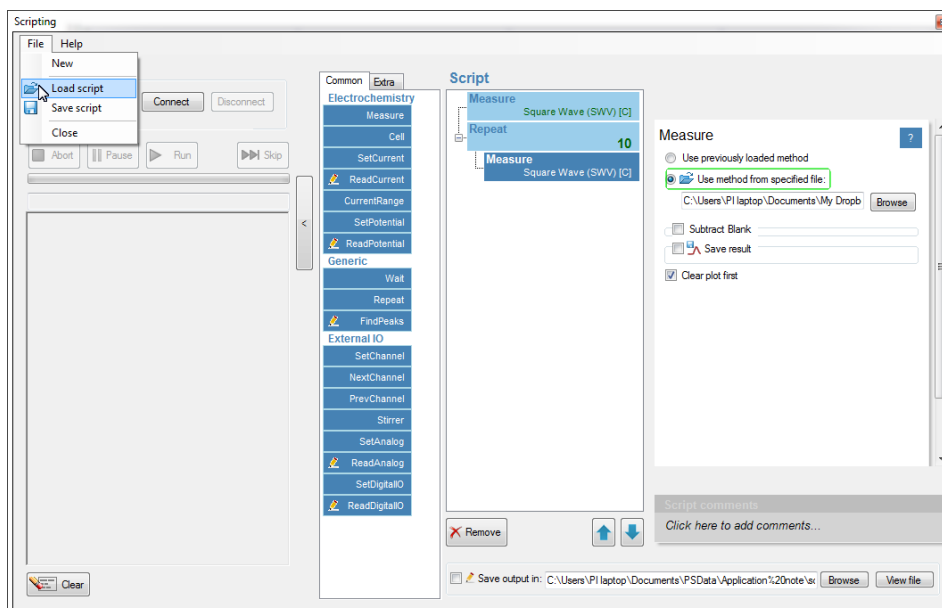

Figure 4.1: the script window
5. Open the script window in the *Script – Open Script window* menu. Remove existing building blocks from the *Script* column by clicking on the block and click *Remove*. Choose the *Measure* block from the list of building blocks. It is added to the *Script* column. Click on the added *Measure* block and choose in the right window the option to use a specific file. Choose the method you created under step 3. Next add a *Repeat* block and increase the number of repeats to 10. Add another *Measure* block while the added *Repeat* block is still selected. The *Measure* block will be added inside the *Repeat* block. Choose again for the *Measure* block that a specific file should be used and choose the method created under step 4. The script should look like Figure 4.1. It is also possible to save the entire script under *File – Save script* in the script window.